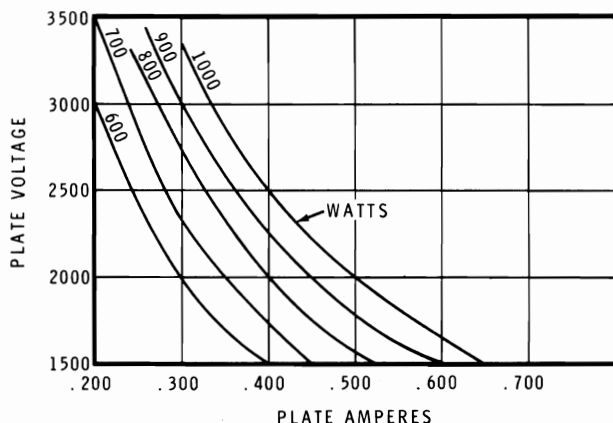

Figure 3-4
- (✓) Alternately adjust the TUNE, LOAD, and exciter drive controls for the desired input. Refer to Figure 3-4. The meter readings at 1 kw input will be approximately: